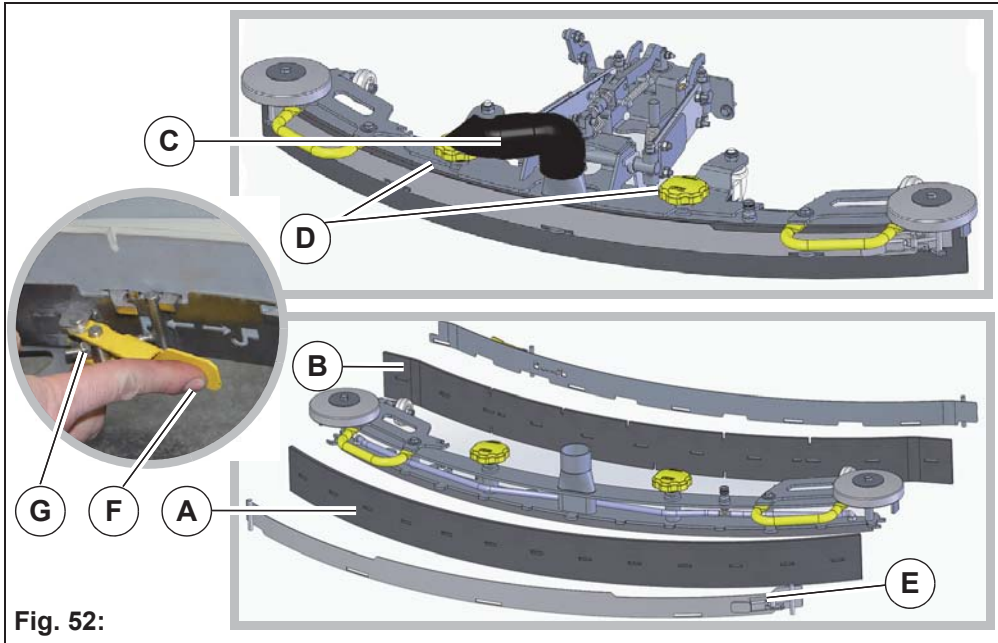

Fig. 52:
Check the sealing strip **Fig. 52-A** and the slot strip **Fig. 52-B** at the squeegee weekly for wear and damage. If the used sealing edge of the strip is worn or damaged, turn or replace the strip. Each strip can be used four times before it needs replacing.
1. Pull off the suction hose **Fig. 52-C**.
2. Loosen the star-shaped handles **Fig. 52-D** and remove the squeegee.
Release the tension strap **Fig. 52-E** and remove.
Fold over the turnbuckle **Fig. 52-F** all the way when releasing so that the tension strap is easier to remove.
The strips can be of different thickness. The turnbuckles must be readjusted if necessary **Fig. 52-G**.